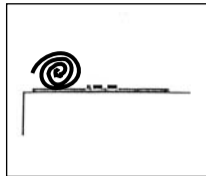

Fig. 7: Using thick carpet to reduce spillover.
- place thick carpet between the microphone and the unwanted sound source(s) as shown in fig. 7 to reduce the spillover.